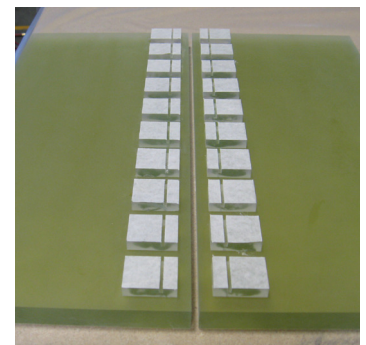

Figure 2
5. Draw a pencil line 3/8" from the edge to be seamed. Place clamping blocks along pencil line approximately 1/2" to 1" (1.3 - 2.5 cm) apart. The slotted saw cut should be positioned closest to the joint. Repeat for opposite side of joint. Clamping blocks should be applied using the hot glue gun. (included in kit) Apply hot glue to the bottom of the clamping block, apply block to Chroma surface and hold in place for 15 seconds to ensure proper fixture. The resulting blocks should be paired across the joint as shown in Figure 2.